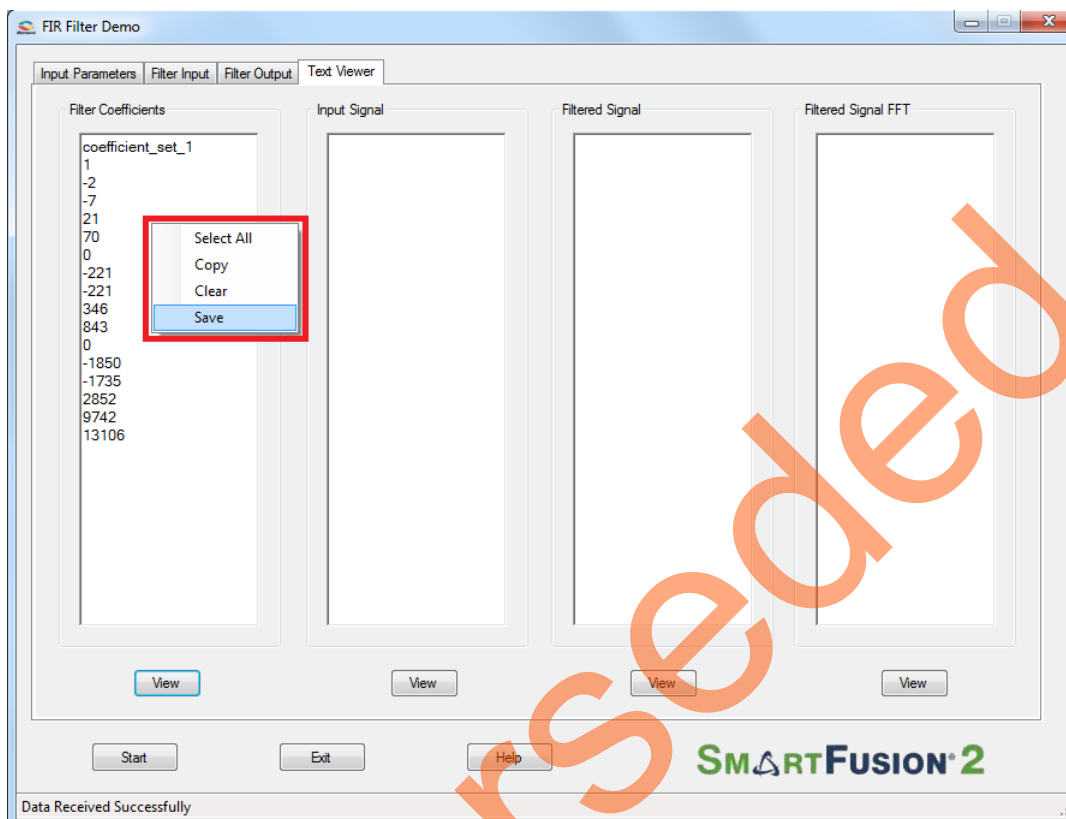

Figure 21 • Text Viewer: Coefficients Save Options
12. To save the coefficients as a text file, right-click on the **Filter Coefficients** window, it shows different options, as shown in Figure 21. Now click on **Save**. Select **OK** to save the text file.